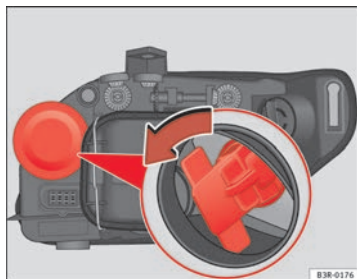

Fig. 205 Turn signal
- Remove the bulb holder by pulling on the grip and turning it anti-clockwise ⇒ fig. 205.